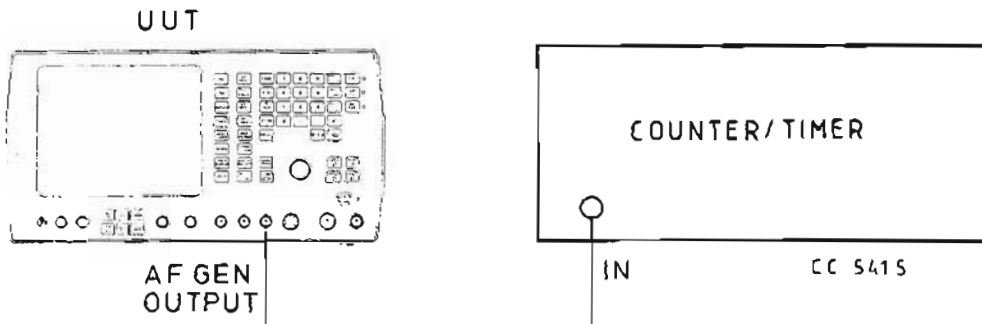

Fig. 14 Test equipment connections for a.f. generator frequency accuracy performance checks
- (1) Connect the equipment as shown in Fig. 14.